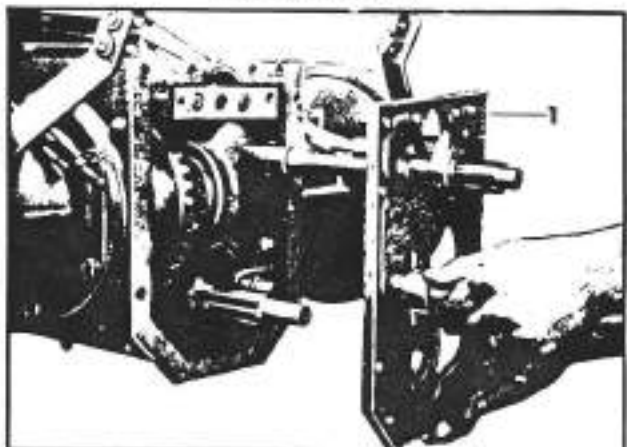

Fig. 3-23. Removal of the intermediate plate
- r. Take out the two lock nuts of the intermediate plate (1; fig. 3-23) and remove it with its respective gasket.